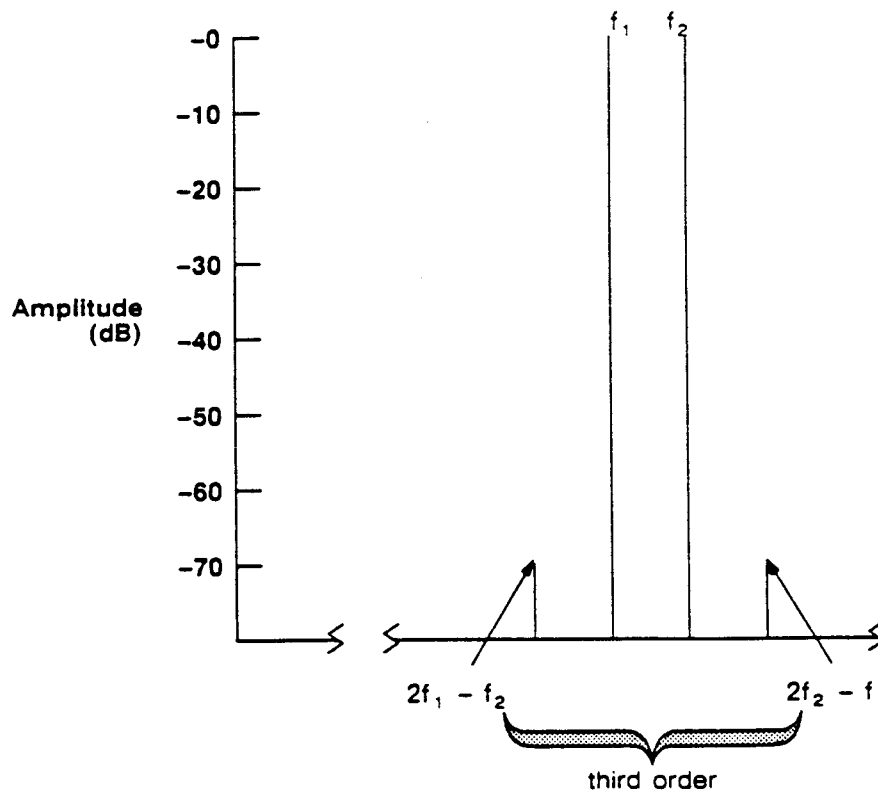

Figure 1-6. Spurious Response-Intermodulation Distortion Products
42. The third-order intermodulation distortion products should appear 50 kHz below the lower frequency signal and 50 kHz above the higher frequency signal. Their amplitude should be less than the display line. See Figure 1-6.
55. The third-order intermodulation distortion products should appear 50 kHz below the lower frequency signal and 50 kHz above the higher frequency signal. Their amplitude should be less than the display line. See Figure 1-6.